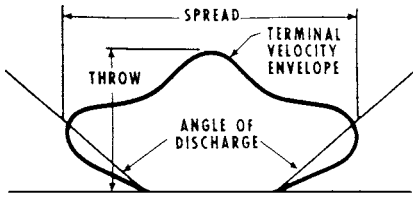

Figure 17-4 Typical airstream pattern. (Courtesy of Tuttle & Bailey.)
- *Spread* is the measurement (in feet) of the maximum width of the air pattern at the point of terminal velocity (see Fig. 17-4).